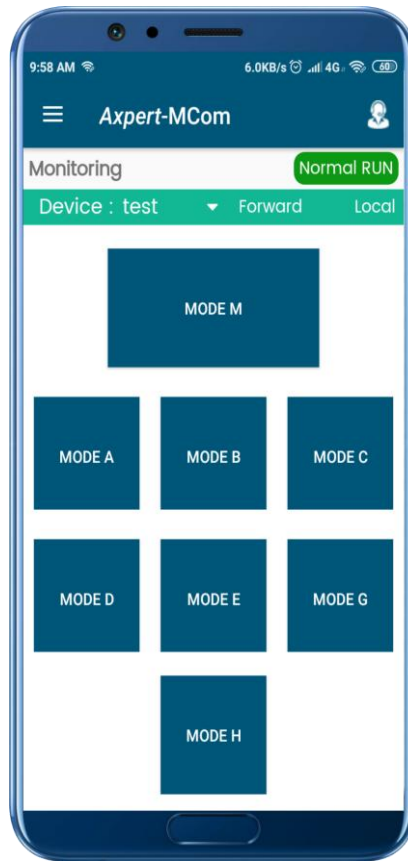

Figure 17: Monitoring Module
- To view the parameters, click on the monitoring tab in the drawer. A list of all supported modes in the product shall be displayed (Figure 17).